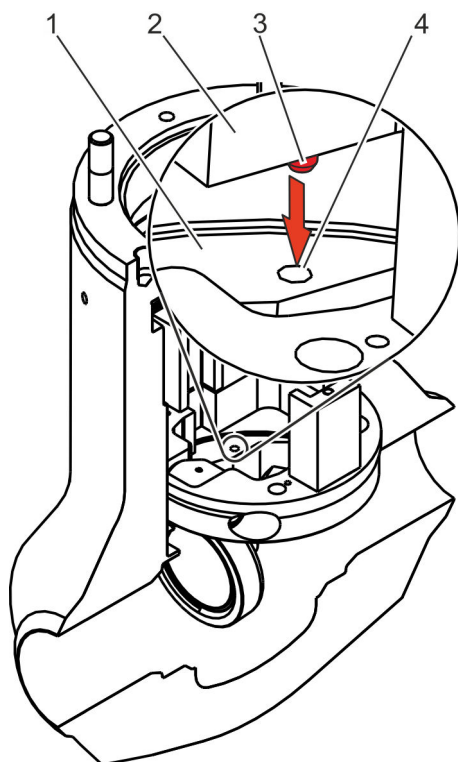

Fig. 53: Positioning the retaining ring
10. → Positioning the retaining ring: Insert pins (Fig. 53/3, 2 pieces) in the retaining ring (Fig. 53/2) into the boreholes (Fig. 53/4, 2 pieces) in the body.